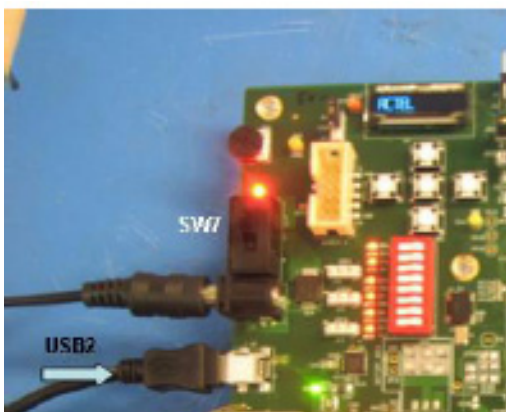

Figure 2-3 • Connecting the USB and 9 V Power Supplies on the M1AFS-ADV-DEV-KIT Board
1. Connect one end of the USB mini cable to USB port J2 on the M1AFS-ADV-DEV-KIT board (labeled USB2 in Figure 2-3 on page 2-18) and connect the other end to the USB port on your PC.
- Connect one end of a 9 V power supply to power input J3 on the M1AFS-ADV-DEV-KIT board (Figure 2-3) and plug the supply into an electrical outlet.